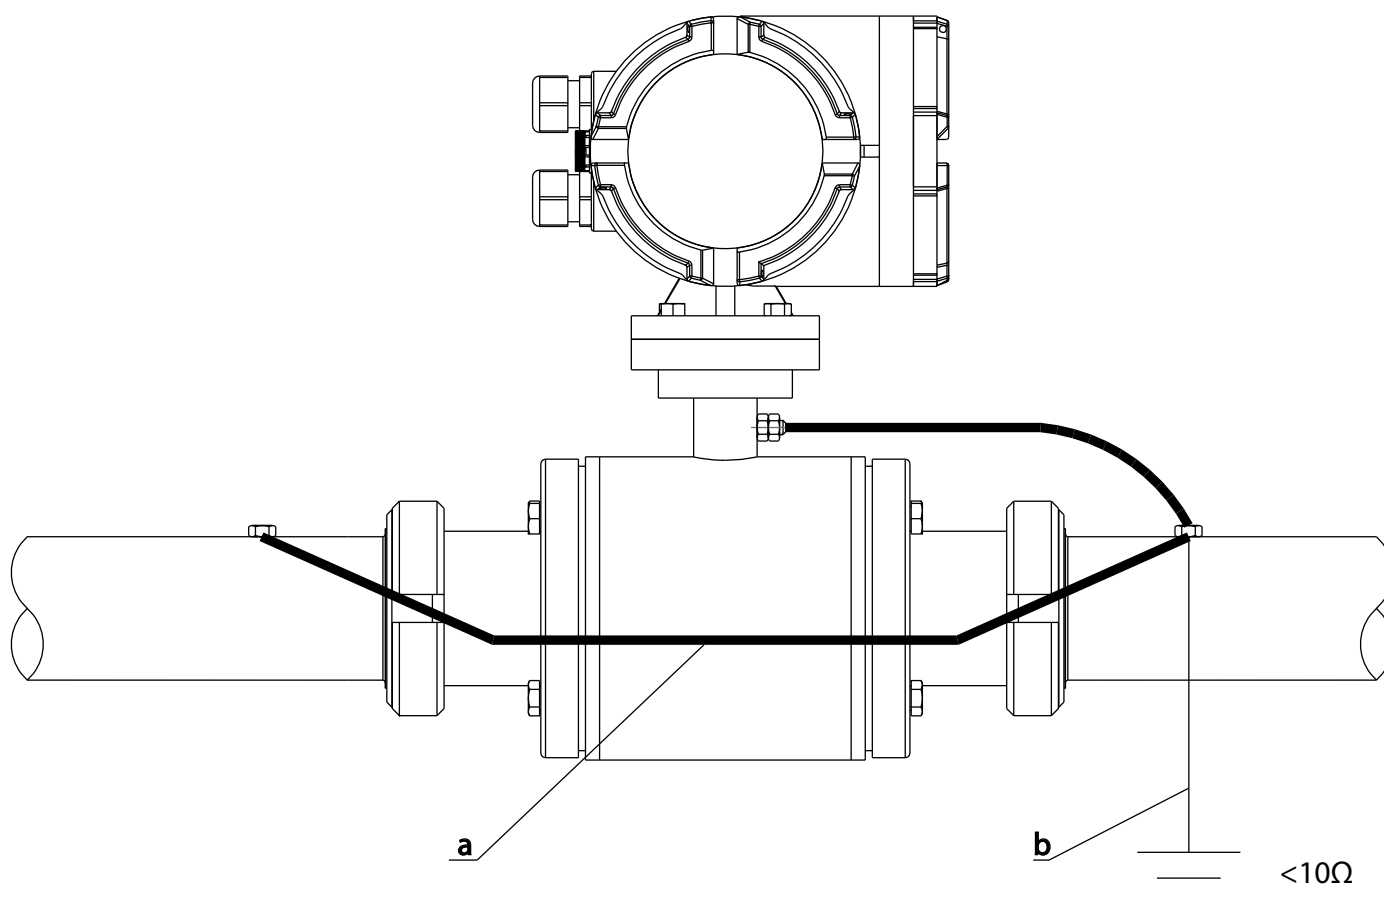

Fig.18 Sensor equipotentiality
The sensor is isolated from the fluid because of the lining, therefore it's necessary to connect the grounding cables to the pipe's flanges, as shown in fig. 18. The resistance for grounding connection should be less than 10ohm.
- a) With conductive pipes, potential equalization is made by connecting sensor and the adjoining pipes as shown in figure. The bolt connection for flanges can not be used instead of the electric connection, it must have an additional electric connection as shown in **Fig.18**.